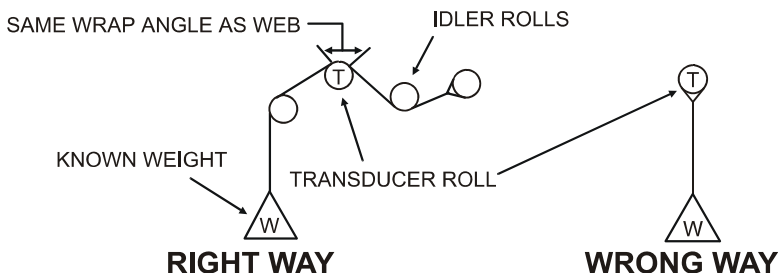

Figure 8 - WEB PATH
2. **CALIBRATION:** Fasten one end of the rope in the machine and thread the other end around the transducer roll in exactly the same path the web will take. Ideally the rope should hit an idler roll immediately before and after the tension sensing roll. It does not have to pass over any other rollers once these three are strung. Refer to Figure 8.
1. Attach the weight to the free end of the rope as shown in Figure 8. The weight should not touch anything. Wait for the weight to stop swinging. Ideally, the rope will pass over the center of the transducer roll.